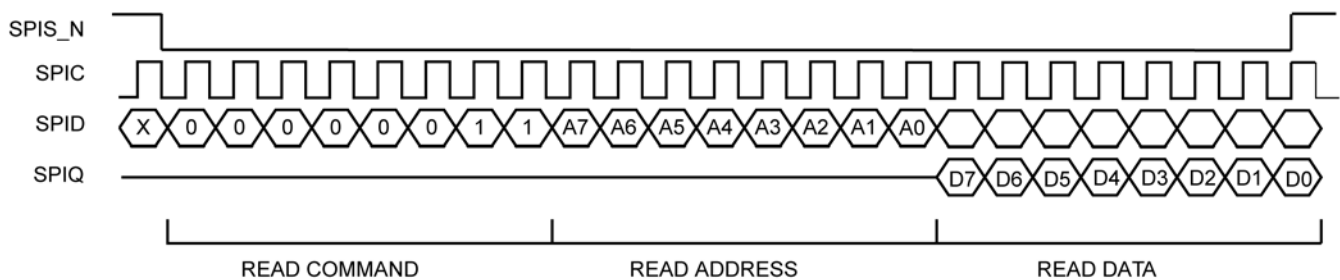
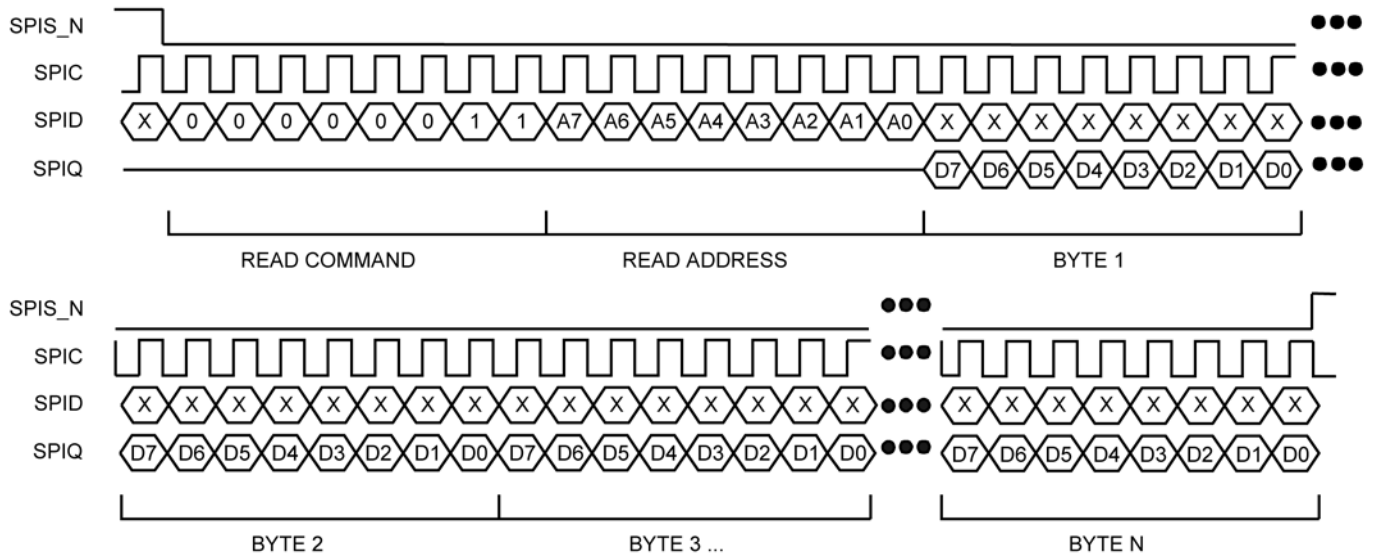

Figure 10. SPI Read Data Cycle
Figure 12. SPI Multiple Read
If a 2-wire EEPROM exists, the KSZ8864RMN can perform more advanced features like broadcast storm protection and rate control. The EEPROM should have the entire valid configuration data from Register 0 to Register 255 defined in the “Memory Map,” except the status registers and indirect registers. After reset, the KSZ8864RMN will start to read all control registers sequentially from the EEPROM. The configuration access time ( $t_{\text{prgm}}$ ) is less than 30ms, as shown in Figure 12.
5. Registers can be read and configuration can be verified with a typical SPI read data cycle as shown in Figure 10 or a multiple read as shown in Figure 12. Note that read data is registered out of SPIQ on the falling edge of SPIC.